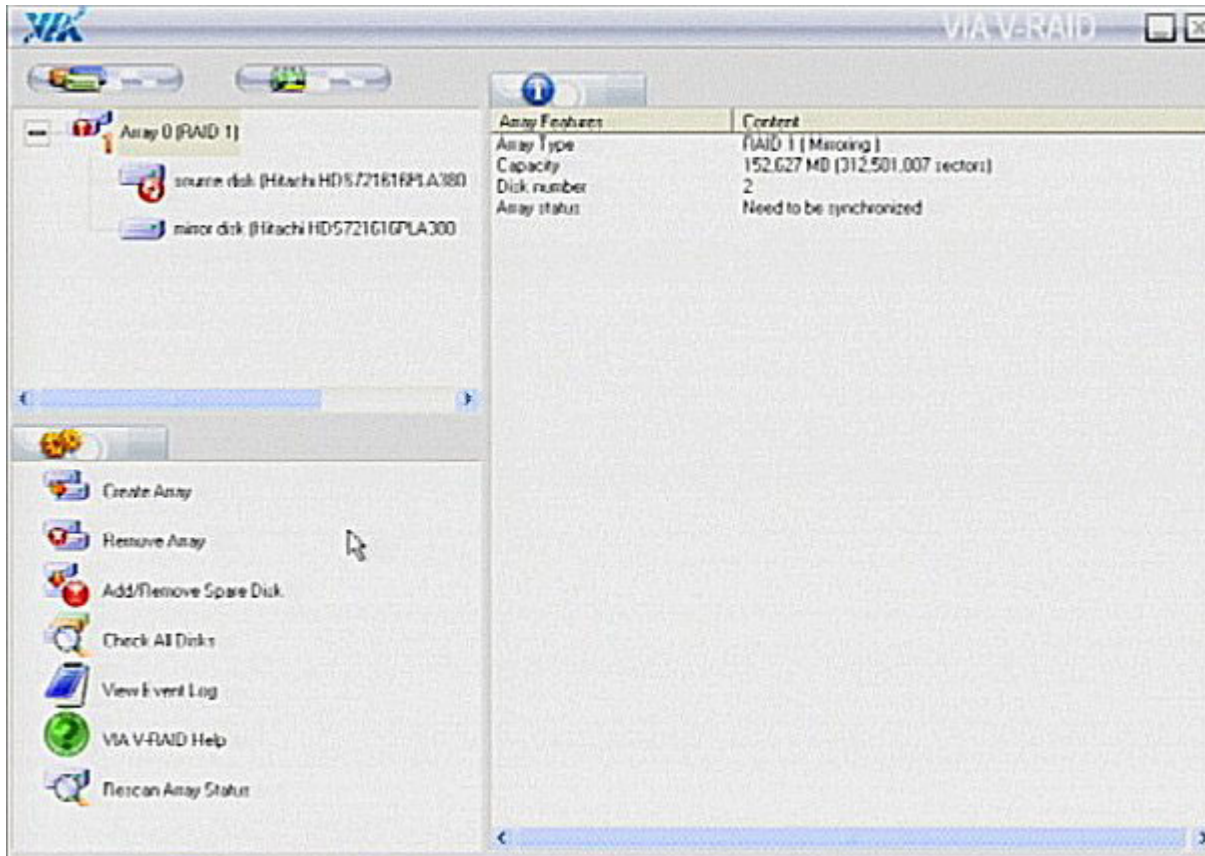

Figure 39. Disk drive failure
2. Determine which hard disk drive has failed by expanding the array (see Figure 39).